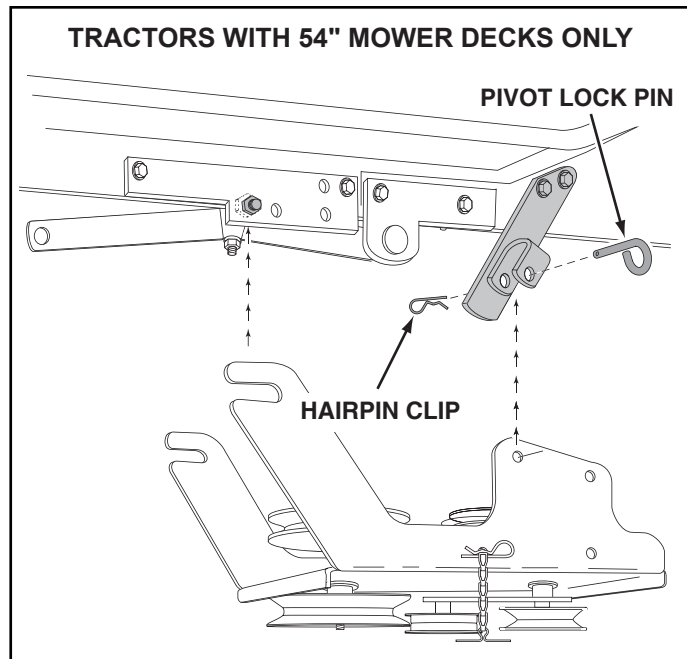

FIGURE 13
- Attach the rear of the clutch/idler assembly to the tractor frame by sliding the notched arms of the assembly onto the shoulder bolts assembled to the frame brackets. Lift the front of the assembly, positioning the upper idler pulley so that it clears the engine pulley. Attach the front of the assembly to the hanger brackets using two pivot lock pins and two hairpin clips. See figure 13.